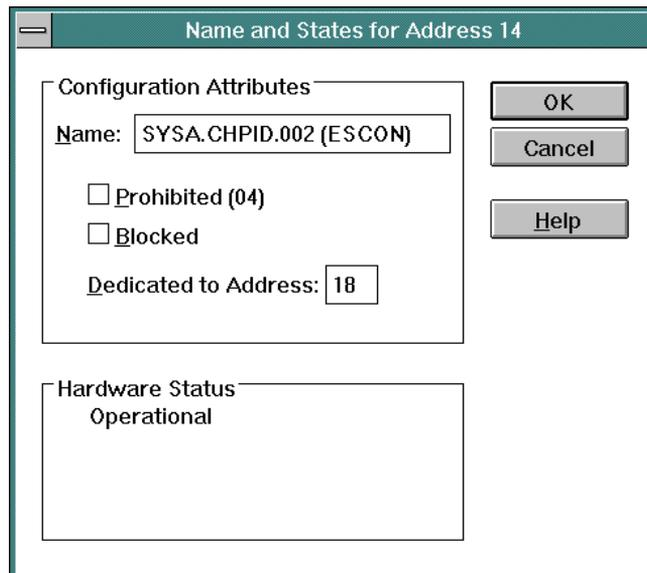

Figure 149. Name and States Dialog Box
- Set the attribute from the *Name and States* dialog box (Figure 149). Open the dialog box by selecting the *Name and States* option from the *Edit* menu, or by moving the cursor to the *Con* column (for port address **14**) and double-clicking the mouse. Enter port address **18** in the *Dedicated to Address* field and click the *OK* button.
- Set the attribute from the *Name and States* dialog box (Figure 149). Open the dialog box by selecting the *Name and States* option from the *Edit* menu or double-clicking the mouse. Enter port address **16** in the *Blocked* field and click the *OK* button.